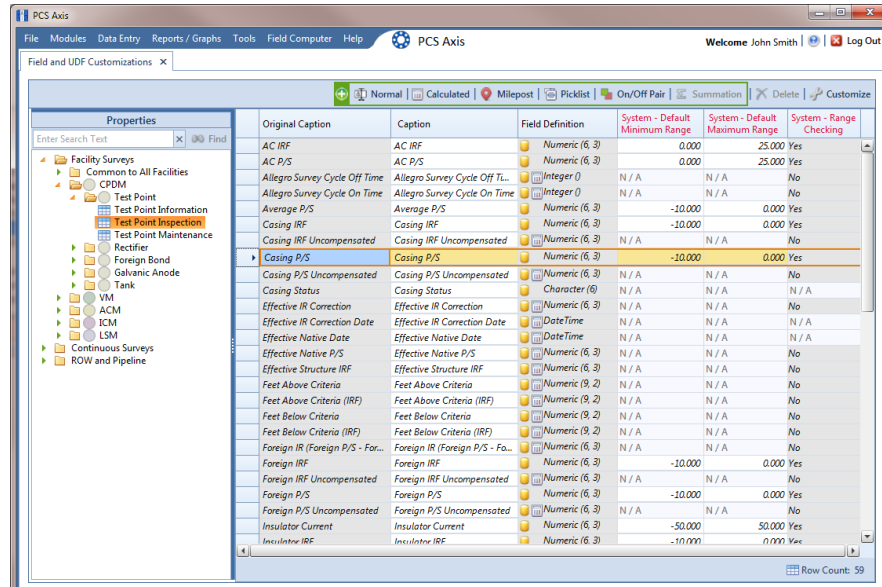

Figure 3-35. Field and UDF Customizations
For example, double-click **Facility Surveys > CPDM > Test Point > Test Point Inspection**. The grid displays related fields and property settings for the *Test Point Inspection* data entry grid (Figure 3-35, page 77).
- 4 Select the inspection field you want to set up for range checking. For example, select *Casing P/S* as shown in the following figure (Figure 3-35, page 77).